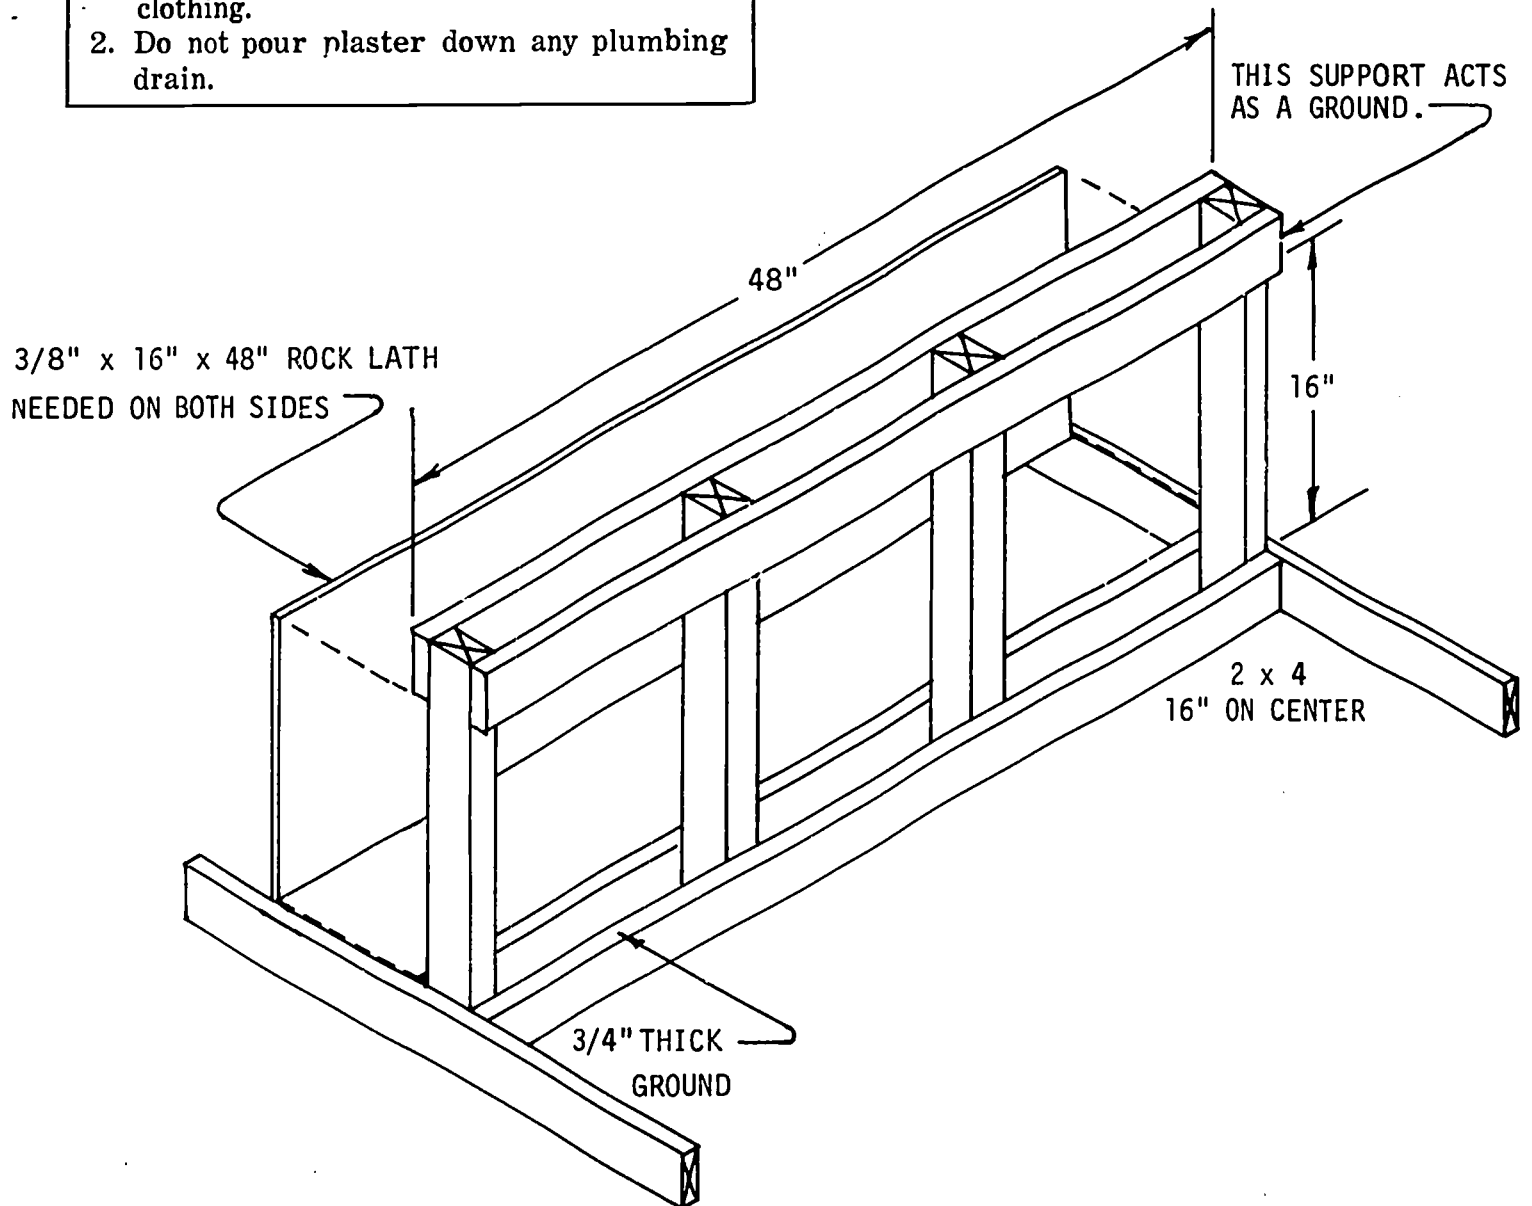

Fig. 119-1. Simulated Wall Frame
1. Have prepared in advance several simulated wall frames, with rock lath and plaster ground applied, ready for plastering. See Fig. 119-1. Use one of these for the demonstration.